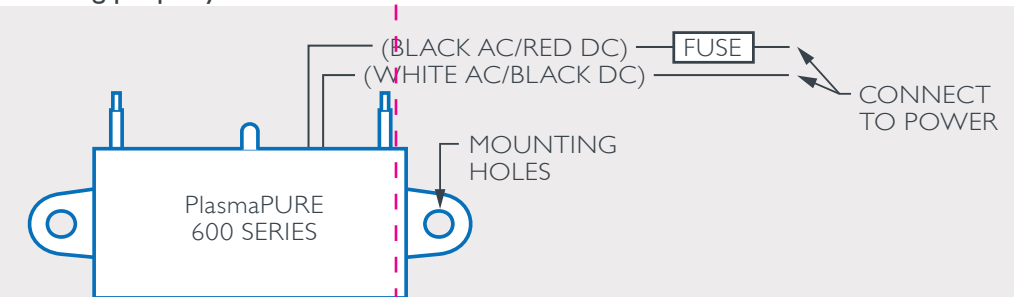

FIGURE 3
5. Connect power to ionizer using appropriate voltage per the following: See figure 3.